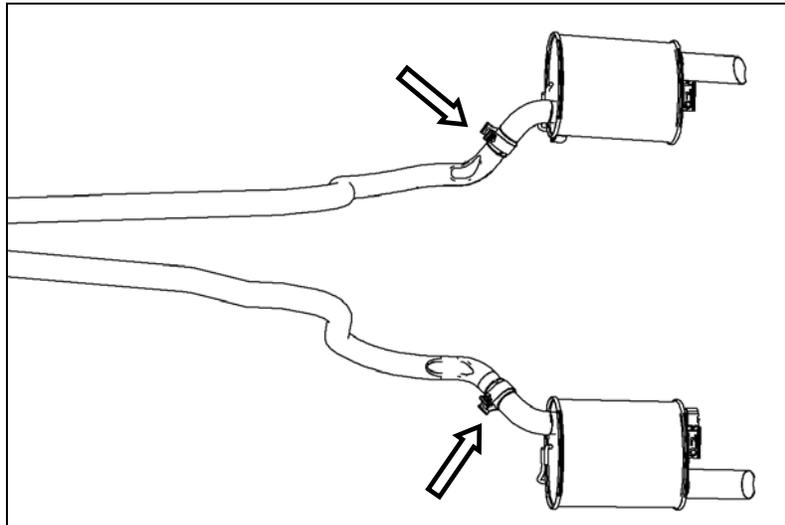

Figure 1
1. Loosen the clamps which hold the factory mufflers in place. Refer to Figure 1.